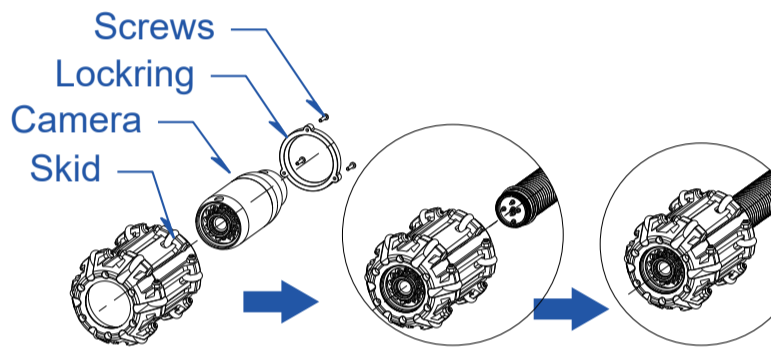

Figure 13. 72 Roller skid
- 1) Install 72 Roller Skid.(See Figure 13)